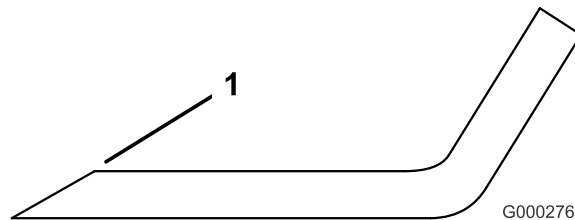

Figure 88
- Examine the cutting edges of all of the blades. Sharpen the cutting edges if they are dull or nicked. Sharpen only the top of the cutting edge and maintain the original cutting angle to make sure of sharpness (Figure 88). The blade will remain balanced if the same amount of metal is removed from both cutting edges.